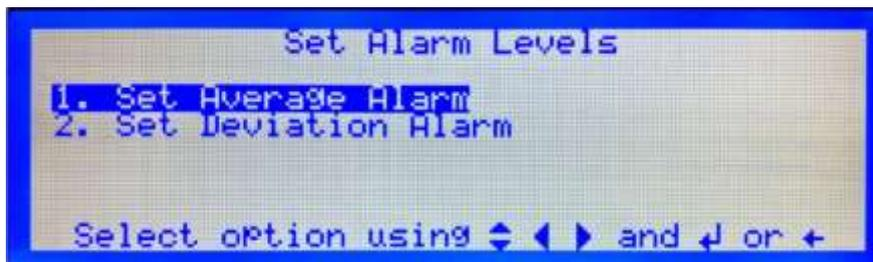

Figure 54 Set Alarm Levels
- To set the deviation alarm levels, select 2. Set Deviation Alarm from Set Alarms menu, Figure 54,